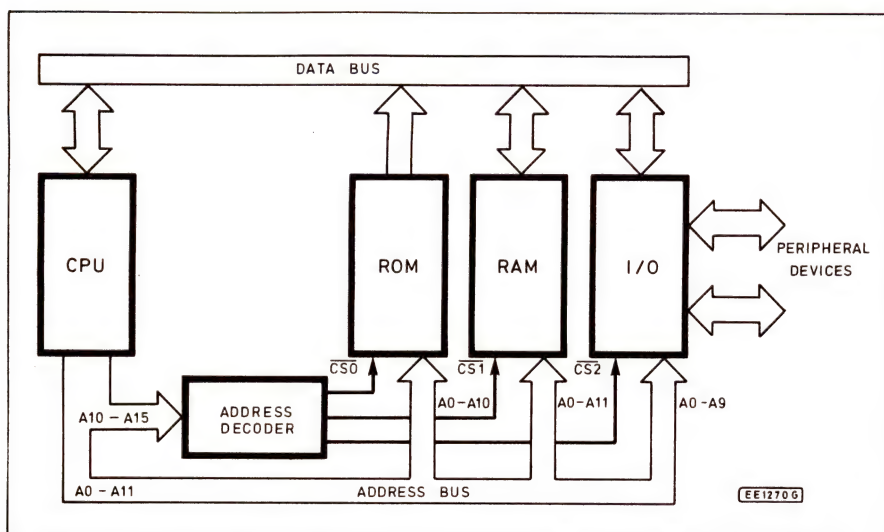

Fig. 6.1. Architecture of a representative microcomputer using memory mapped I/O.
Table 6.1. Truth table for the address decoder in Figure 6.1
The architecture of a representative microcomputer using memory-mapped I/O is shown in Fig. 6.1. Note that the six most significant addresses (A10 to A15) are fed to an address decoder, the outputs of which are used to drive the active-low chip select (CS) lines of the ROM, RAM, and I/O devices. The I/O device, for example, is selected (enabled) whenever CS2 goes low. The address decoding is, of course, arranged so that only one of the chip select lines goes low at any time. The action of the address decoder can be explained using Table 6.1.
Refer to Fig. 6.1 and Table 6.1.
The architecture of a representative microcomputer using port I/O is shown in Fig. 6.1. This system is a little more complex than its memory mapped counterpart and it is important to note that the processor's MREQ and IOREQ control signals are fed to the address decoders and are used in the production of the ROM, RAM and I/O block chip select sig-